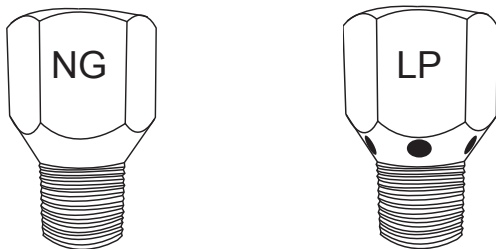

Fig. 4 Natural (NG) orifice on left; LP (vent holes) on right.
Main Burner Orifice - All fire features **MUST** have a main burner orifice installed on the inlet side of the burner. An orifice limits the amount of gas flow to the burner to ensure the flame is a safe and reasonable height, not to pose a risk to people or property. The drawings below show the difference between a Natural Gas (NG) and Propane (LP) orifice. LP gas requires ventilation holes at the base of the orifice to provide a cleaner flame. See Fig. 4.